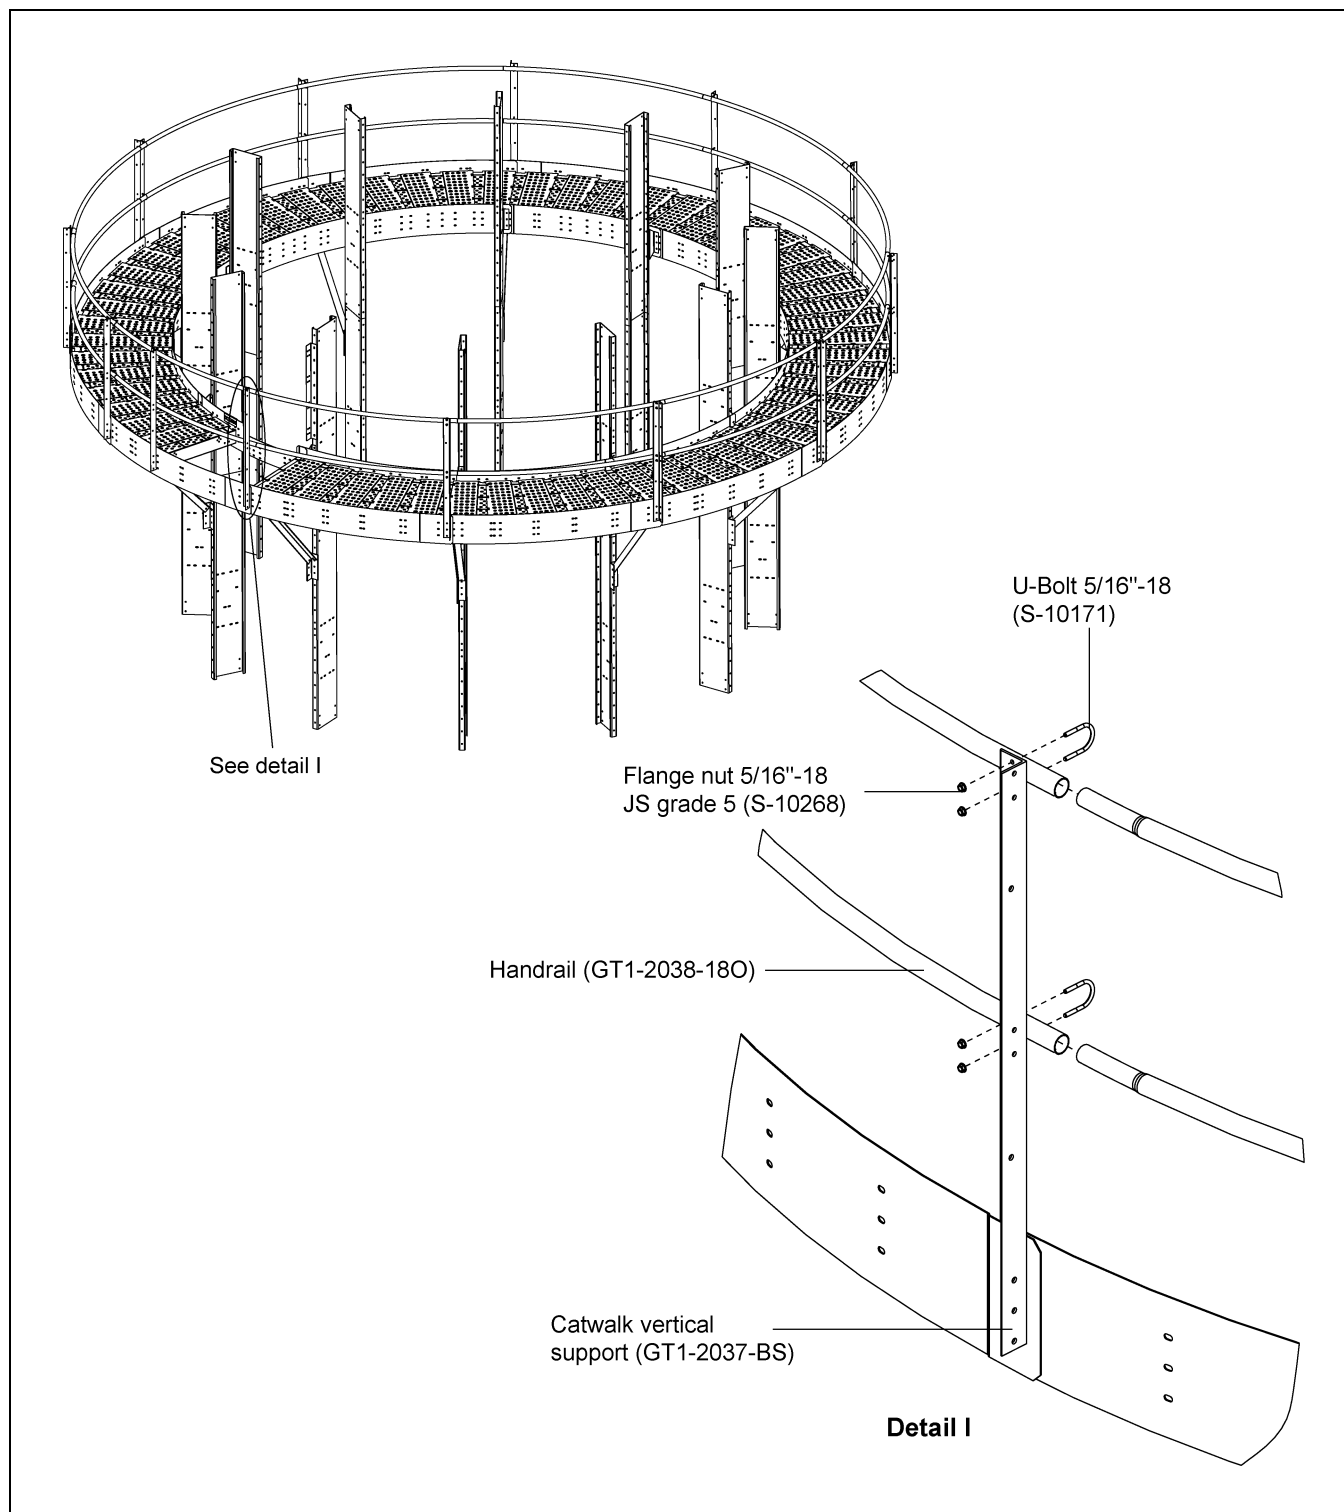

Figure 4U
1. Install the handrail (GT1-2038-18O) to the catwalk vertical support (GT1-2037-BS) using 5/16"-18 ZN U-bolts (S-10171) and 5/16"-18 JS grade 5 nuts (S-10268) to tighten the handrail with vertical post. (See Figure 4U.) (See Page 27.)